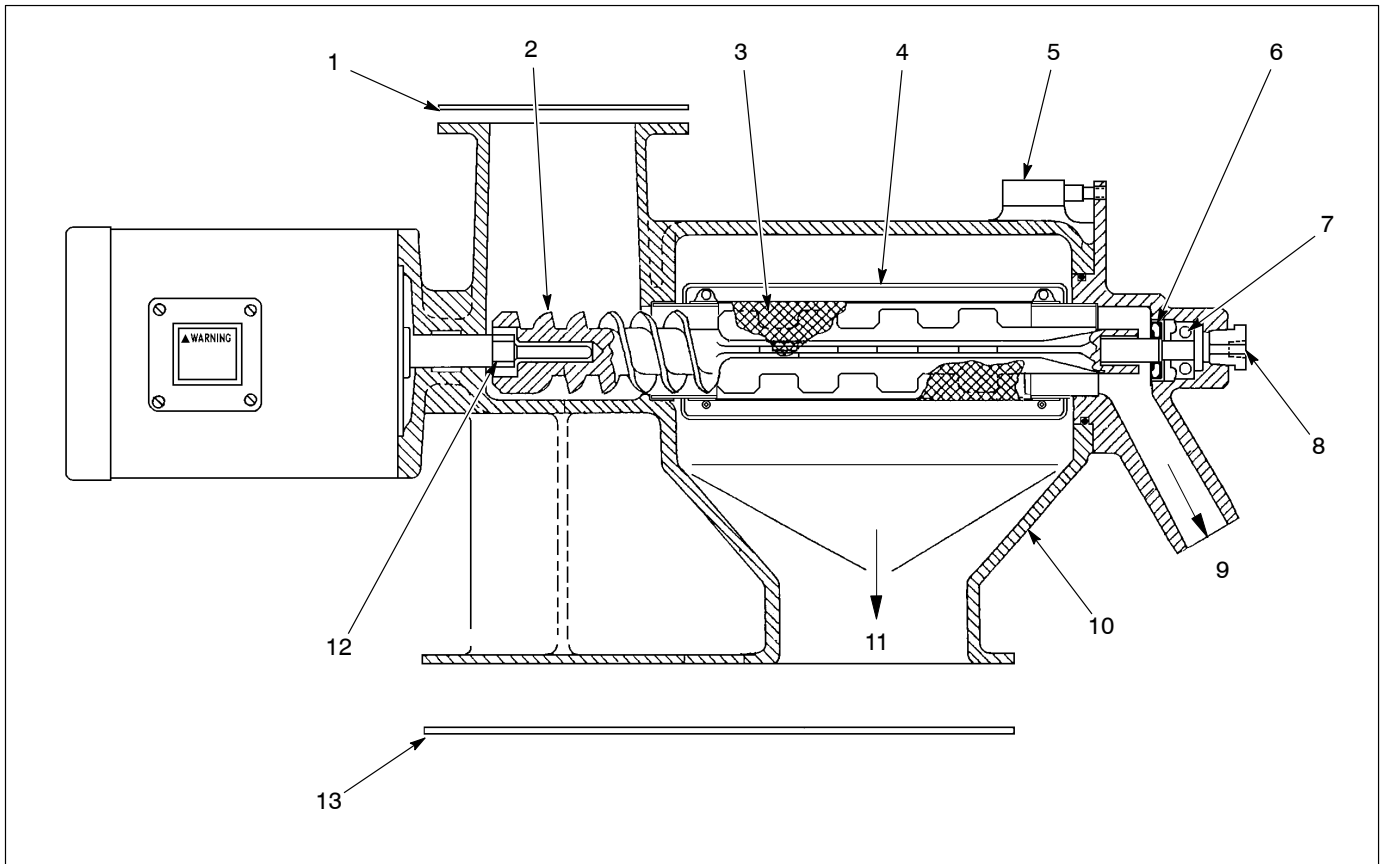

Fig. 2 Rotary Sieve Cutaway View
See Figure 2. The impeller (2) is coated to prevent impact fusion. The cylindrical screens (3) are nylon mesh and secured to each end of the screen support (4) by stainless steel clamps.